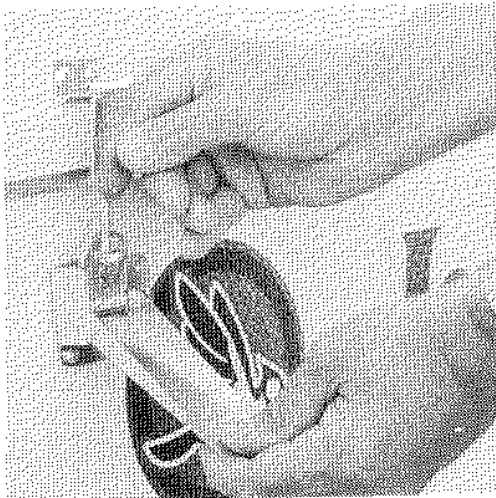

Fig. 1
1. Unfasten each corner latch. CAUTION: NEVER TRY TO CRANK UP THE ROOF UNTIL ALL FOUR CORNER LATCHES ARE UNLOCKED AND FREE. Fig. 1